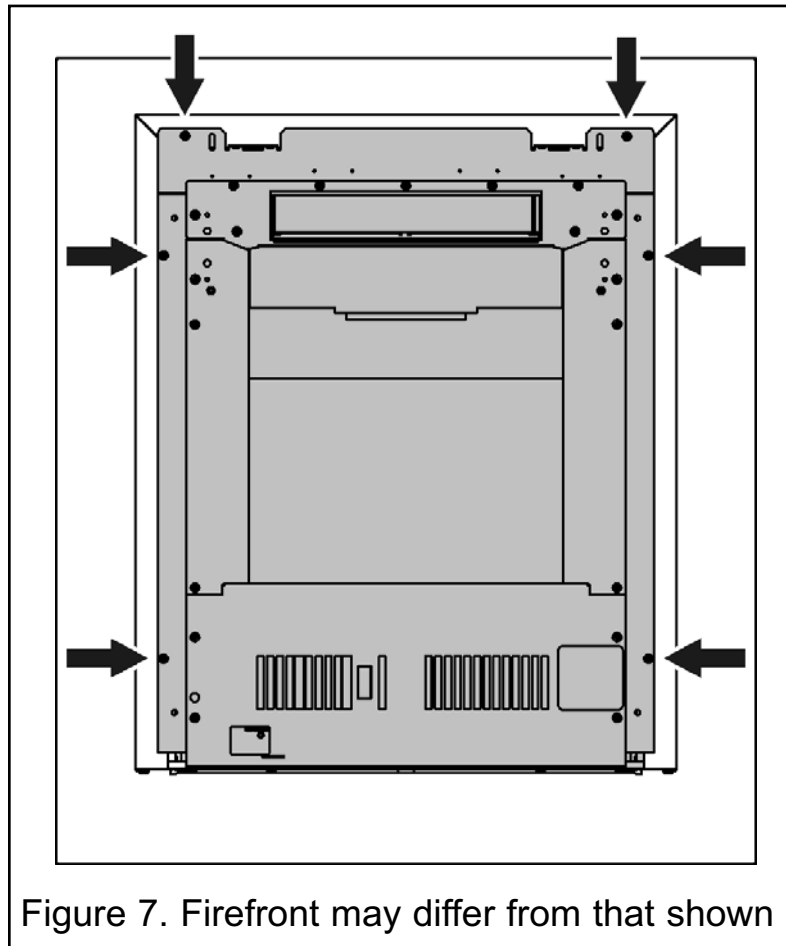

Figure 7. Firefront may differ from that shown
- 2.** Secure the firefront using six M4 x 6mm screws supplied (See figure 7).
2. Unscrew and remove the six M4 x 6mm screws that secure the firefront (See figure 7).